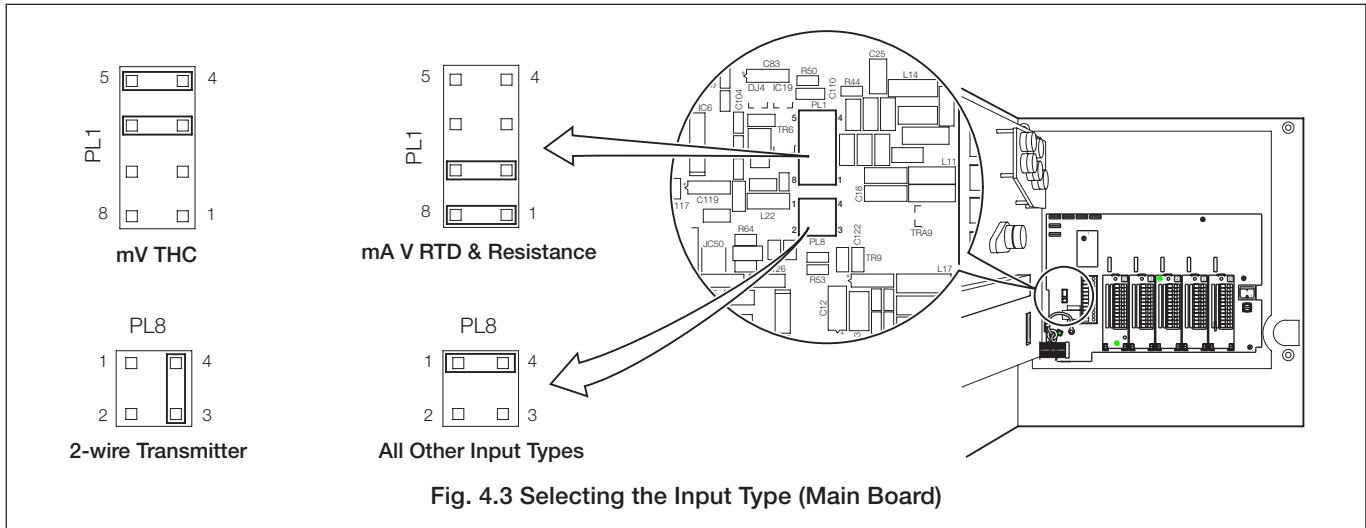

Fig. 4.3 Selecting the Input Type (Main Board)
4.2.1 Selecting the Analog Input Type(s) – Figs. 4.3 and 4.4
- Channel 1** PL1 & PL8 on the main p.c.b. (Fig. 4.3)